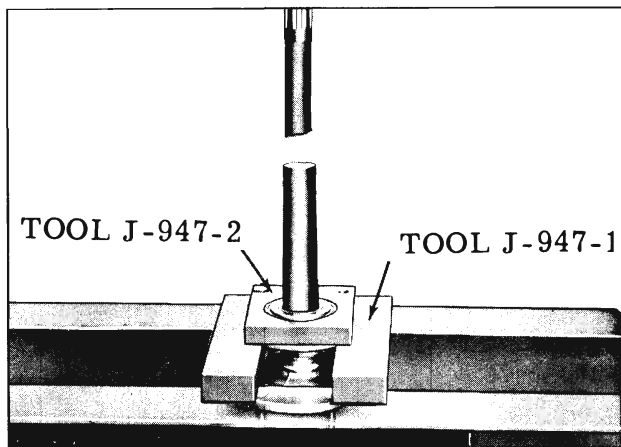

Fig. 5-38 Removing Axle Shaft Bearing
2. Engaging outer race of bearing with Tool J-947-2, used in conjunction with J-947-1, press off bearing in arbor press, (Fig. 5-38). Remove bearing only when a new bearing is to be installed. (Tool J-947-2 is used during removal to prevent breakage of the bearing outer race which could result in personal injury.)